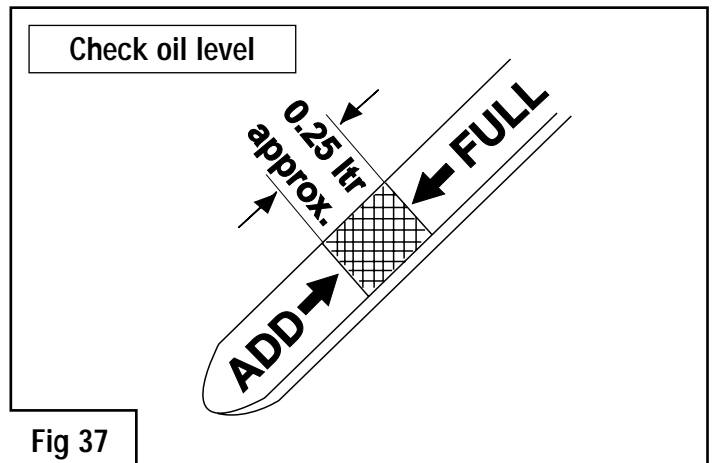

Fig 37
- ✓ Check that the engine is filled with the correct oil (SAE 30) and to the recommended mark – never over-fill (fig 37).